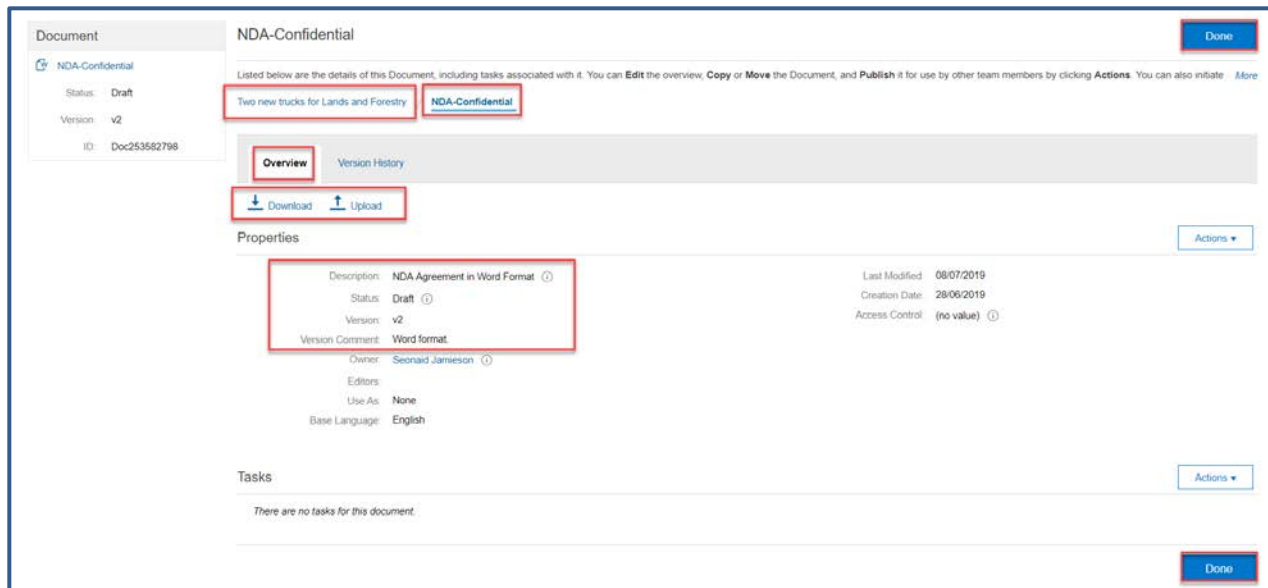

Figure 20
2. Click the document and select **View Details** from the menu. The Document Overview tab is displayed (Figure 20). This shows the name of the document, description, status, version number, version comment etc.